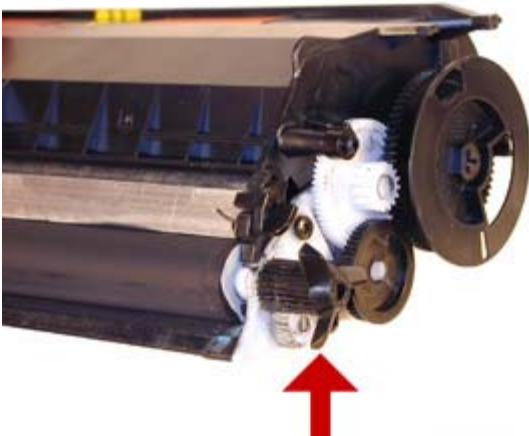

Figure 19
19) Remove the star drive gear from the opposite side of the developer roller, remove the developer roller. The star gear has a very tight fit. See Figure 19